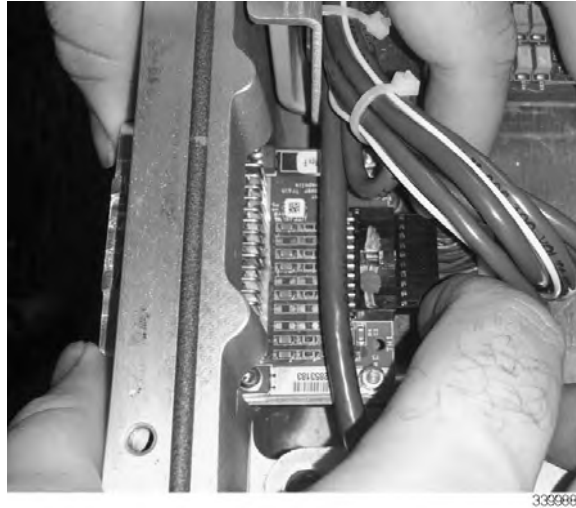

Figure 17. Holding Internal Harness Connector
5. Using both hands and with index fingers on the internal encoder harness connector, push the encoder into the DPIM with thumbs to seat the encoder harness connector into the header on the encoder board (refer to Figure 17).